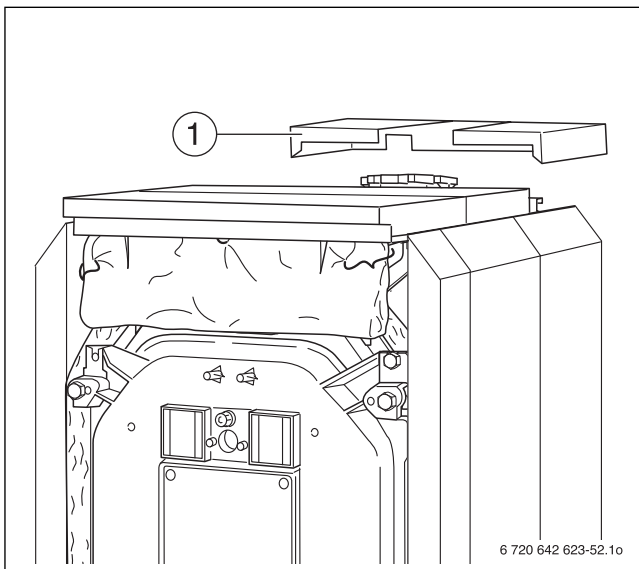

Fig. 54 Fitting the rear cover
- ▶ Fit the rear boiler cover on the side panels with the folded edges and cut-out for the heating circuit flow (→ Fig. 54, [1]) facing toward the front.